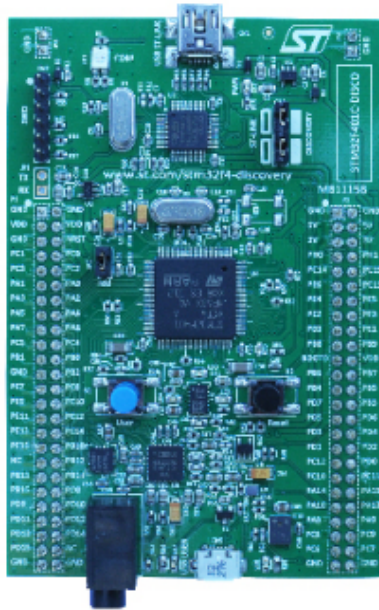

Figure 34 STM32F401C-DISCO board
- Hardware tool : STM32F401C-DISCO (Figure 34 참조)